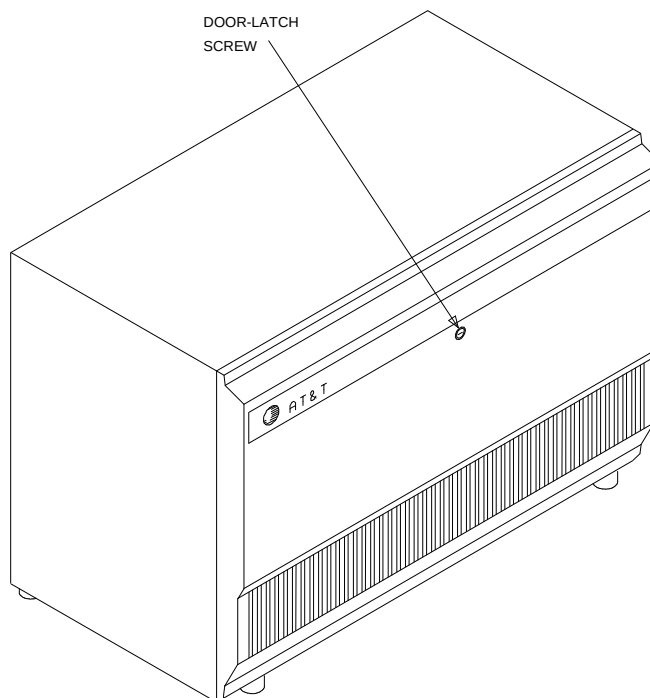

Figure 8-3. Location of Door-Latch Screw for DEFINITY ECS Release 5 Cabinet
1. Use a screwdriver, and turn door-latch screw counterclockwise one quarter turn to release door (see Figure 8-3).